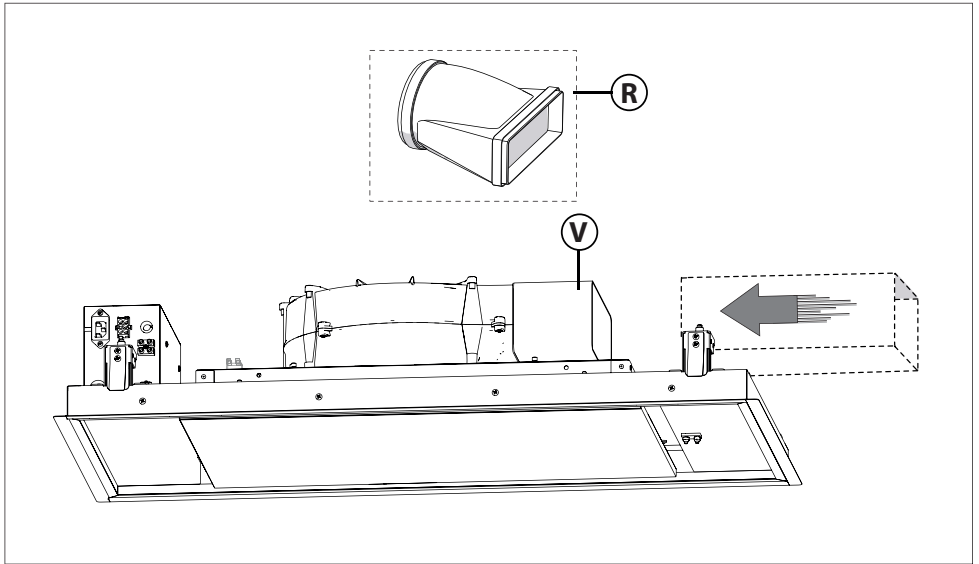

Fig.8
It is therefore necessary to purchase a non-flammable air exhaust tube (not supplied) which complies with all current legislation and connect it to flange V (Fig.8).
- Connect the air exhaust tube by means of the flange V (Fig.8). Should it be necessary to connect a rectangular air outlet fitting with a Ø 150 round tube, use the flange R indicated in (Fig.8), supplied